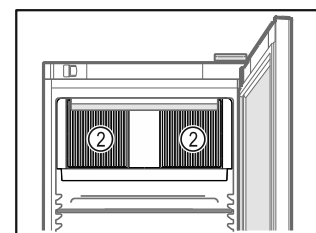

Fig. 59
- ❑ Ventilation slots *Fig. 59 (2)* for recirculation fan in the interior must be kept clear.